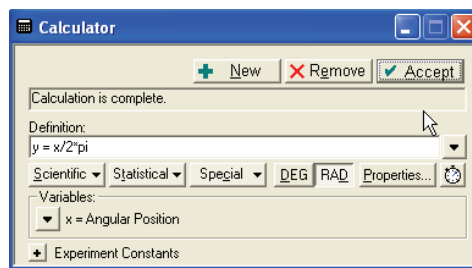

Figure 9: Calculation of Ratio of Radii
- In the data acquisition program, use the built-in Calculator to create a calculation. Base the calculation on the “Angular Position” measurement from the Rotary Motion Sensor. In the calculation, divide “Angular Position” by 2π , where π is approximately 3.1416... Label your calculation “Ratio of Radii” (see Fig. 9).